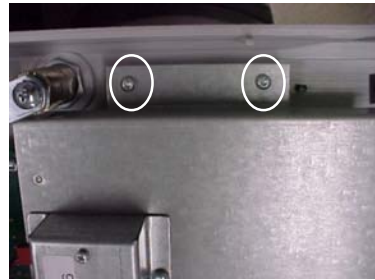

Figure 8. Loosen display screws.
10. Use a Phillips screwdriver to loosen the two (2) screws that secure the top of the Display assembly to the Control panel (Figure 8).